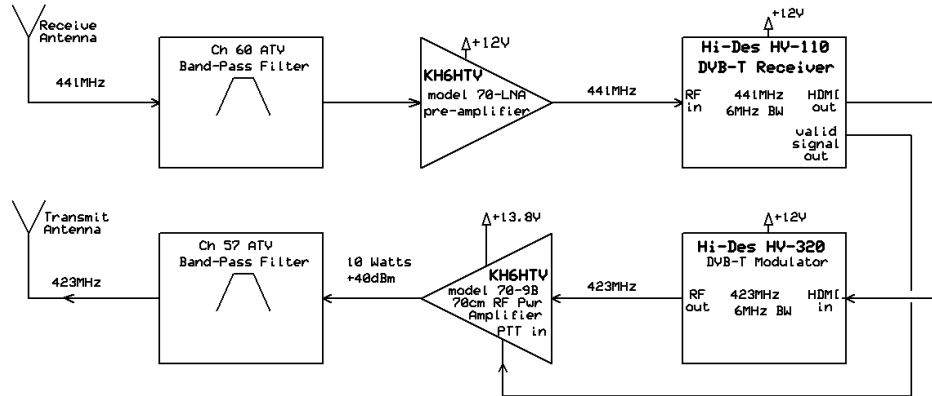

Fig. 3 Block Diagram of a basic, KISS, 70cm DVB-T ATV Repeater
**Basic 70cm Repeater:** Figure 1 is a photo of a basic 70cm DATV repeater which I recently custom built for Boulder County Amateur Radio Emergency Services (BCARES). Fig. 3 is the fundamental block diagram showing the basic elements for a KISS, basic 70cm repeater. Such a repeater could even be patched together in a few minutes in an emergency. Simply taking the HDMI output from a 70cm DVB-T receiver and patching it directly into the HDMI input of a 70cm transmitter. Attach appropriate antennas and bingo, you are on the air with a repeater. Even without the BPFs, it can be done but with severe desensing of the transmitter into the receiver [2].
**Extra Features:** As the basic "KISS" repeater, Fig.3, it will operate independent of human direct control with the automatic Valid Signal detector driving the amplifier's PTT line. For FCC control purposes, a separate control capability is required. This could be accomplished by adding a 2 meter FM receiver. This receiver then drives a DTMF touch-tone decoder / relay driver to add remote control capability. This is shown in the expanded block diagram of Fig. 4. The actual prototype shown in Fig. 1 is an example. An additional nice feature is to have a local video monitor to look at the incoming signals.